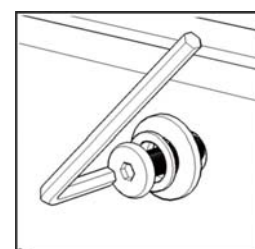
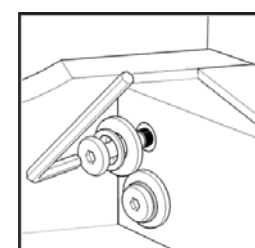

Figure 4
Figure 5
Attach Back Frame (F) to the unit with Flat Washers, Spring Washers, Head Cap Bolts (short), Head Cap Bolts (long) and Wood Screws. (See Figure 4), (See Figure 5)